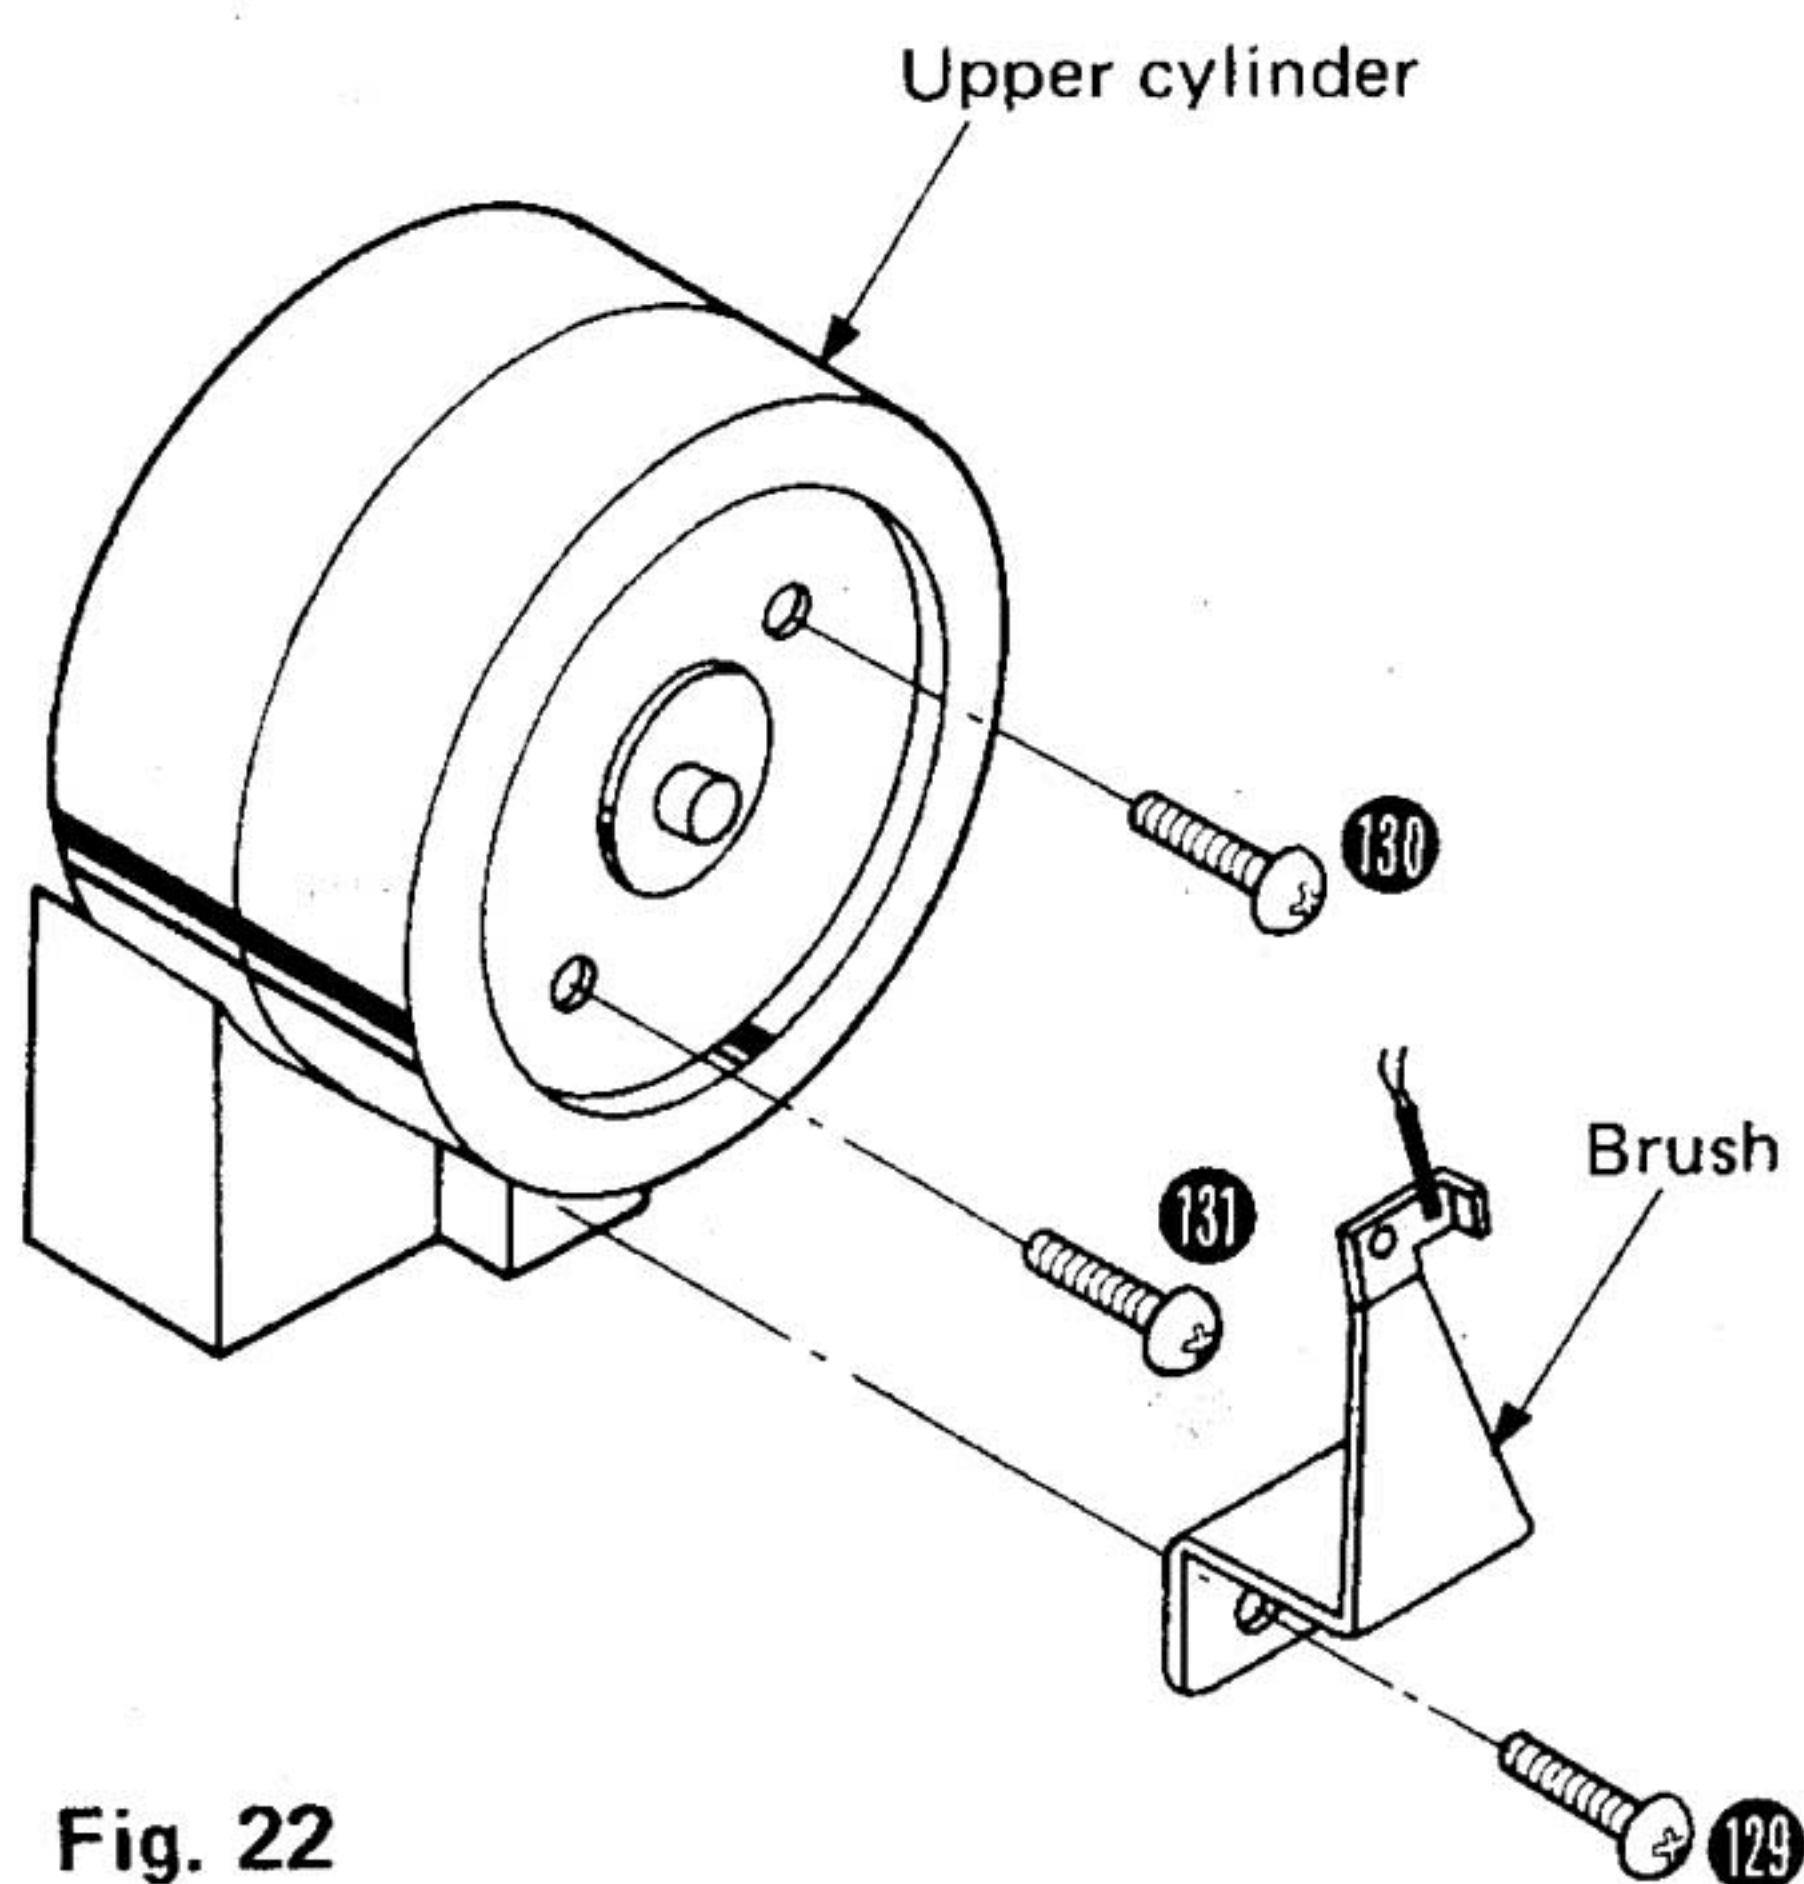

Fig. 22
3. Remove the setscrew (Fig. 22 : 129 ) of the brush.
4. Remove the 2 setscrews (Fig. 22 : 130 , 131 ) of the wire guide.